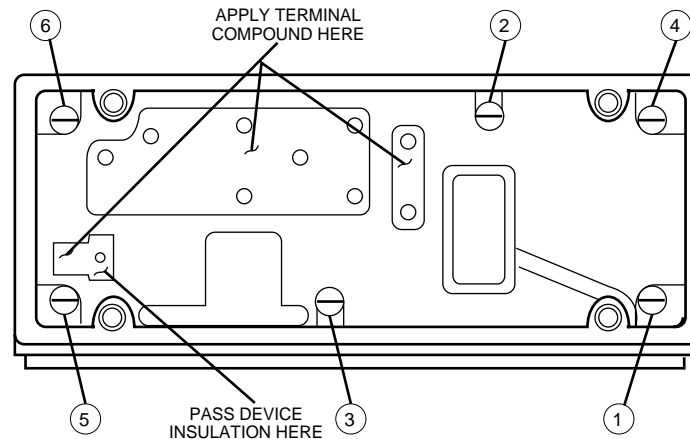

Figure 8-4. PA Board Screw Fastening Sequence (800 MHz 20- and 35-Watt PA)
6. 20- and 35-watt radios only: Install the final device with two screws (torque 8-10 in.-lbs.). The properly oriented final device is shown in Figure 8-4.